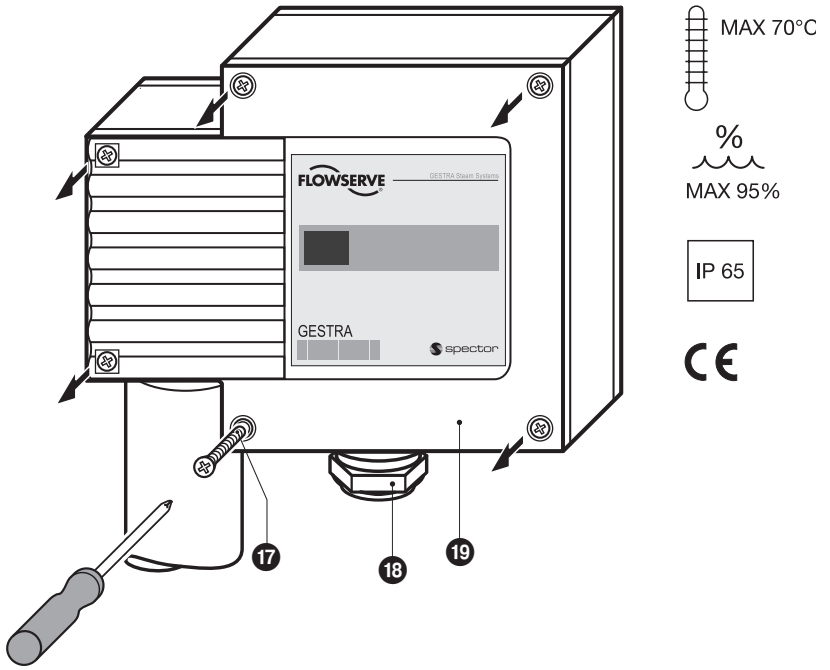

Fig. 12
1. Unscrew screws ⑰ and remove housing cover ⑱. **Fig. 12.** The arrow on the name plate points towards this cover.